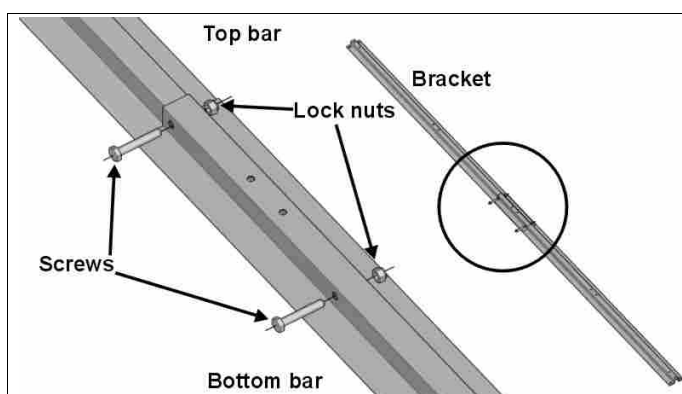

Fig. 7: Support brackets
2. We suggest placing protective material such as cardboard on the floor to serve as a base for assembling the panel. For each panel a pair of support brackets must be assembled by uniting a top bar (in the shape of a narrow "U") to a bottom bar (in the shape of a wide "U"): overlap the top and bottom bars so that the holes are aligned. Insert the bolts and tighten them with the corresponding lock nuts (Fig. 7).